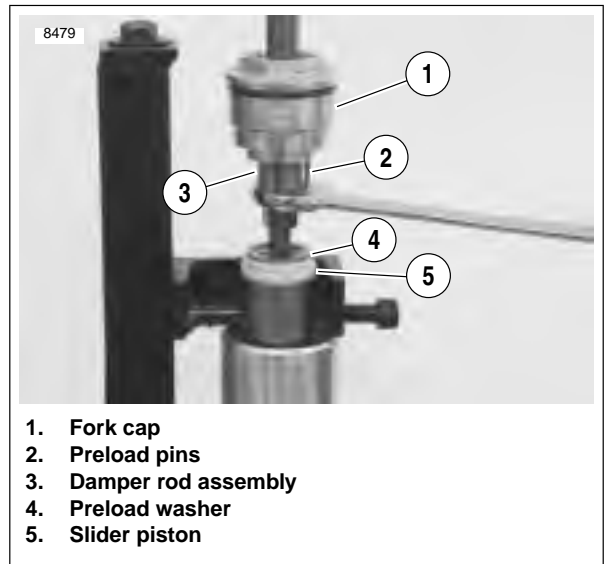

**Figure 2-67. Fork Spring Compressing Tool (HD-45966)**
6. See Figure 2-67. Move the fork assembly from the holding tool and compress fork in the FORK SPRING COMPRESSING TOOL.
8. Remove preload washer (4) and slider piston (5).
9. See Figure 2-67. Uncompress fork and remove from FORK SPRING COMPRESSING TOOL.